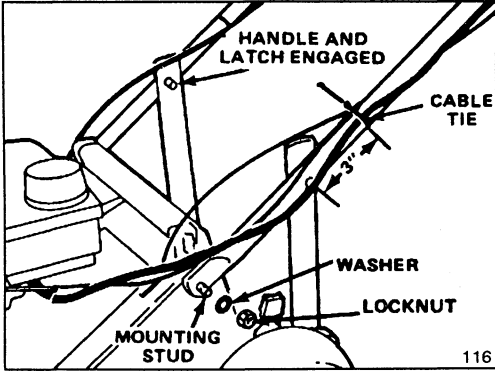

Figure 1
1. Spread handle ends and slide onto mower housing mounting studs (Fig. 1).
2. Secure each side of handle to mounting studs with a washer and locknut (Fig. 1).
3. Spring handle latches inward. Move handle up or down to snap handle studs into middle hole on both latches (Fig. 1).